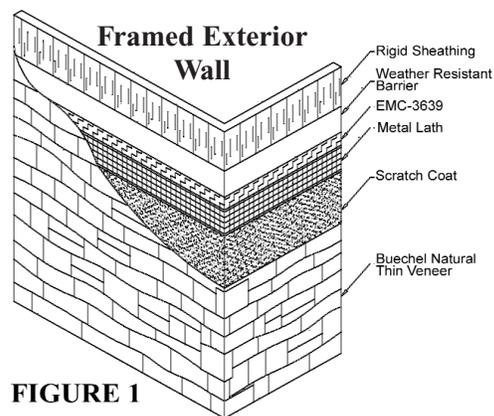

FIGURE 1
Exterior Framed Back up Wall (See Figure 1)
*EMC-3639 is a weep system that is recommended by Buechel Stone Corp. to be installed on any exterior framed back up wall (see Figure 1 & 3).